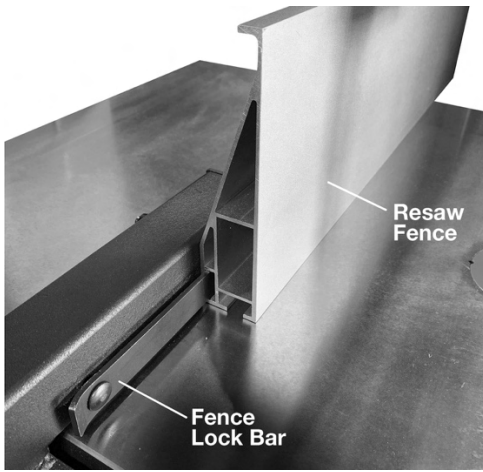

Figure 5-23
5. Slide the resaw fence onto the fence lock bar as shown in Figure 5-23. Tighten the lock bar handles. If fence is difficult to slide onto fence lock bar, try lifting the fence lock handle or loosening the lock bar handles more.